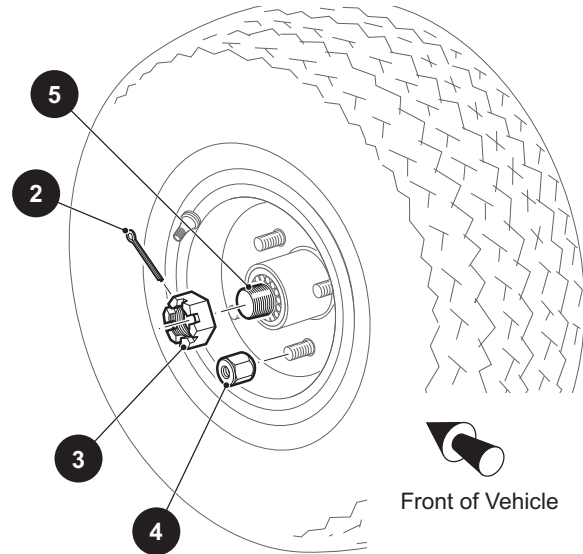

Fig. 2 Bearing Adjustment
2. Remove the cotter pin (2) and loosen the castellated nut (3).
3. If performing a wheel bearing adjustment as part of another procedure, make sure the wheel is mounted to the hub hand tight with lug nuts (4) and the hub is loosely retained on the spindle (5) with the castellated nut (Ref Fig. 2).
5. Rotate the wheel 2 - 3 more turns to displace excess grease. If required, tighten the castellated nut (3) again until slight resistance is felt. If the cotter pin hole in the spindle (5) aligns with a slot in the castellated nut, insert a new cotter pin (2). If the hole does not align, the castellated nut must be **loosened** to align with the **closest available** slot in the nut.
7. Bend the cotter pin (2) against the flats of the castellated nut (3).